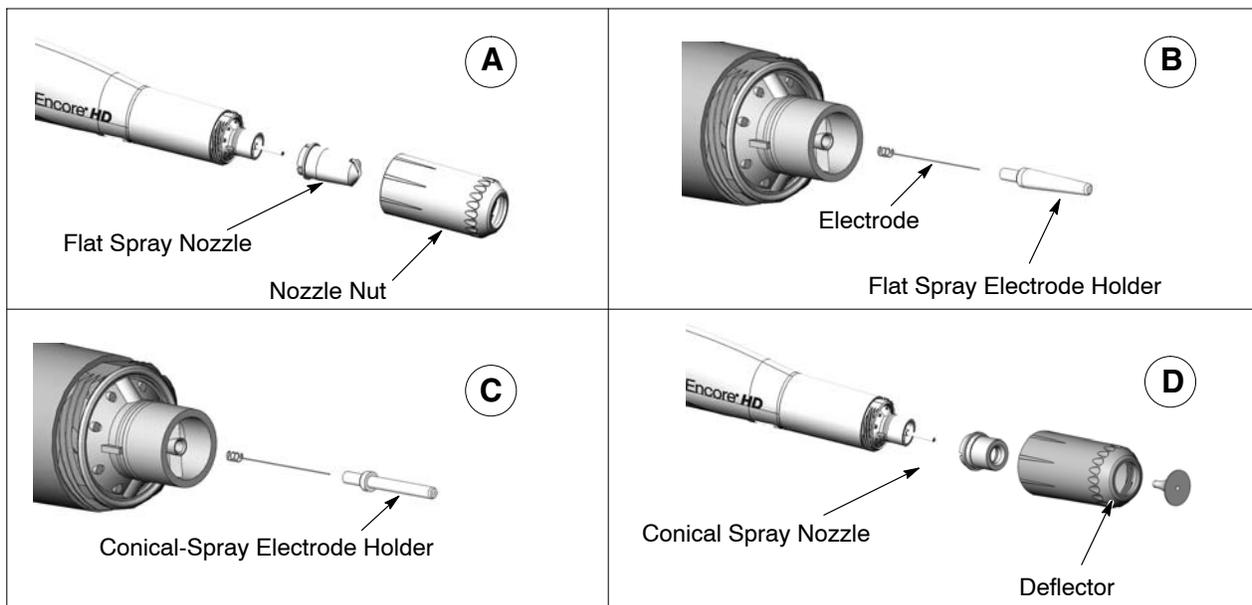

Figure 4-6 Converting from a Flat Spray Nozzle to a Conical Spray Nozzle
2. Convert the electrode holder and the nozzle. See Figure 4-6.